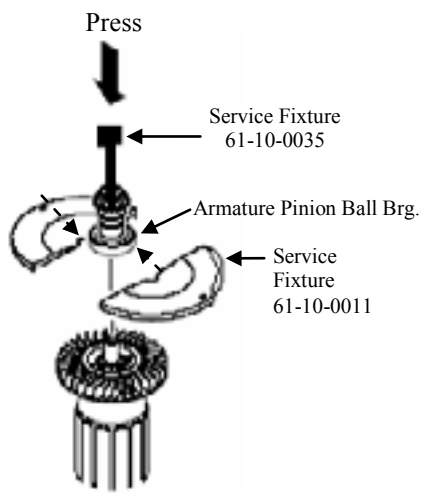

fig. 5
- 4, 21, 37** Remove armature pinion (37) from armature (21) using Special Service Fixtures 61-10-0035. Note: Place separator plates 61-10-0011 under ball bearing (4) as illustrated in fig. 5.